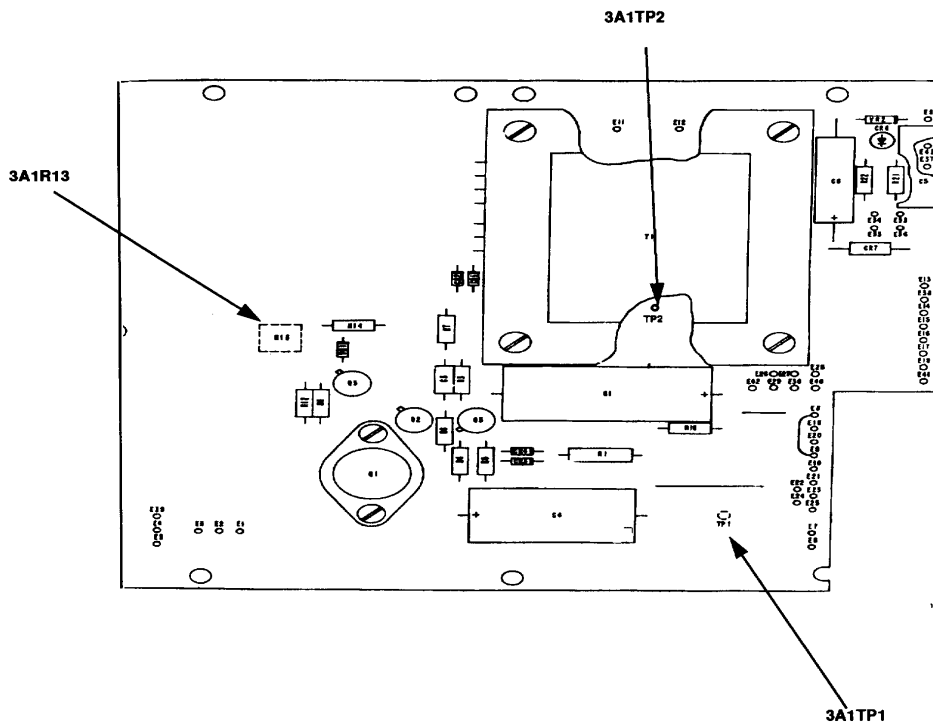

Figure 3. Regulated power supply 3A1 - location of parts.
a. **Performance Check.** Connect digital multimeter positive lead to 3A1TP1 (fig. 3) and connect negative lead to 3A1TP2 (fig. 3). If digital multimeter does not indicate between +14.49 and +14.51 V dc, perform b (1) below.
b. **Adjustments.** Adjust 3A1R13 (fig. 3) for a digital multimeter indication between +14.49 and +14.51 V dc (ideal 14.50 V dc) (R).